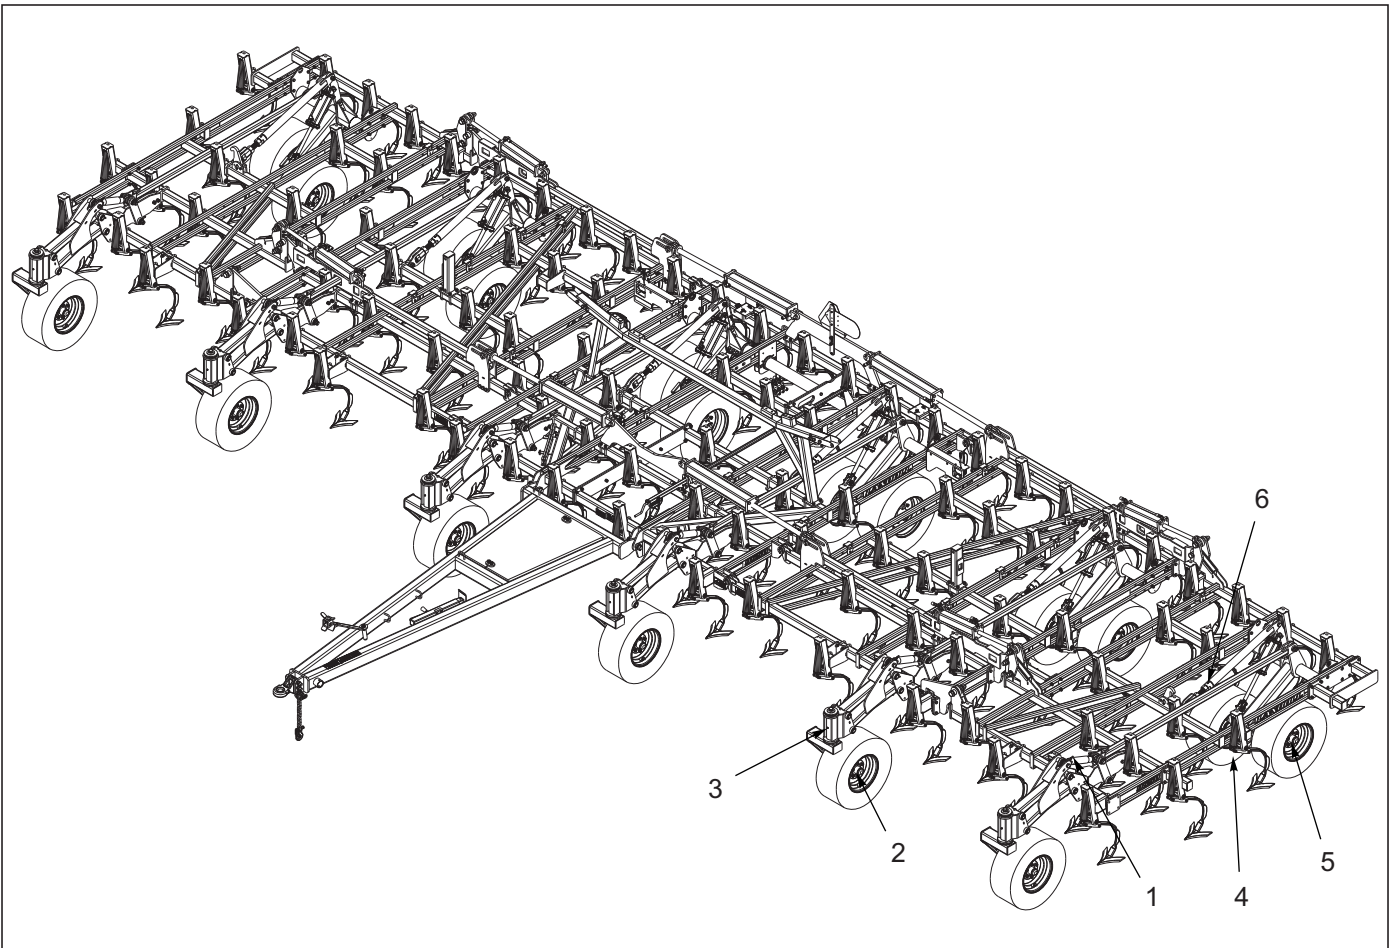

Figure 4-11: Lubrication Points
1. A proper maintenance schedule will insure a long operating life and peak performance. Performing the following lubrication will ensure maximum operating life of the Field Cultivator *See Table and See Figure 4-11.*